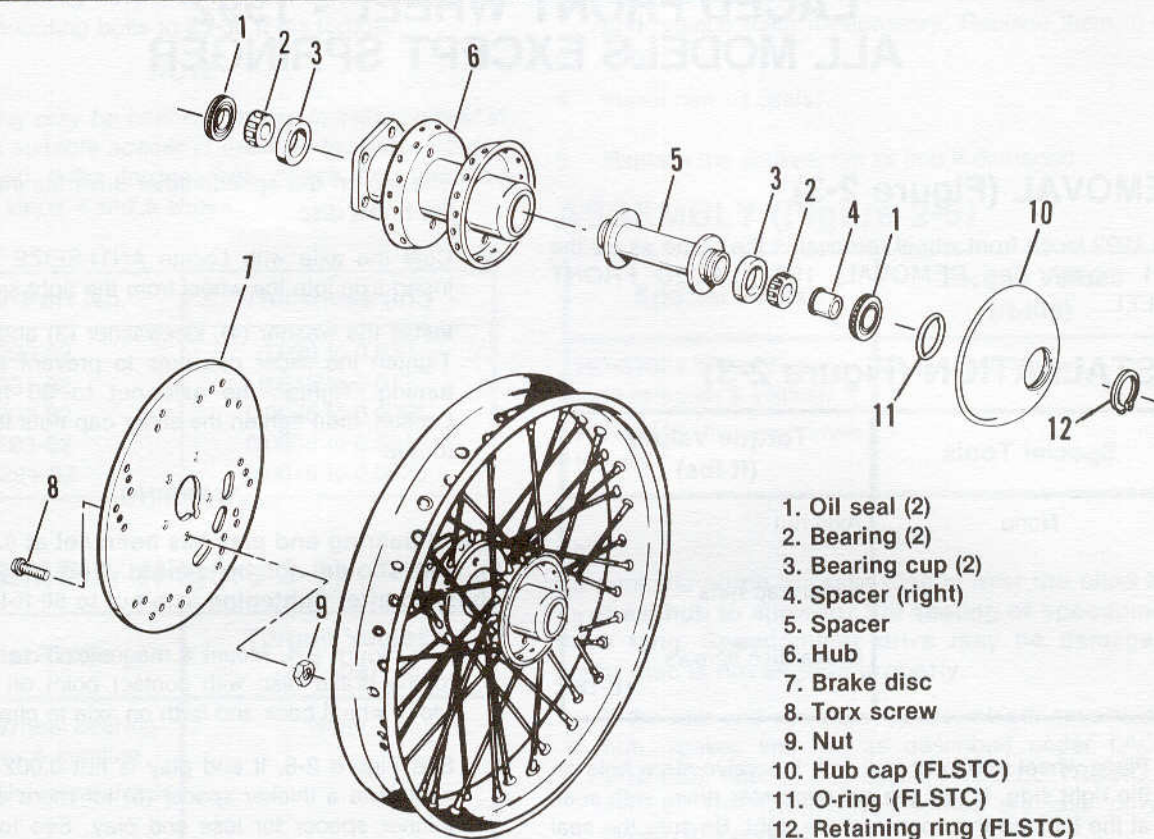

Figure 2-5. Laced Front Wheel
1. See Figure 2-5. Place wheel between fork legs with spacer (4) facing to the motorcycle right side.
See Figure 2-5. Check end play after tightening axle nut to 50 ft-lbs torque and slider cap nuts to 11 ft-lbs torque.
DISASSEMBLY (Figure 2-5)
See Figure 2-5. On the FLSTC, there is a snap ring (12) securing the hubcap (10) to the wheel hub. Remove the snap ring, hubcap and and O-ring (11) before disassembling wheel.
2. Pull spacer (4) and seal (1) from the right end of the wheel hub. The right hand seal may pull free with the spacer because of the small shoulder on the spacer, at the inboard side of the seal.
3. Pull seal (1) out of the left side of the wheel hub.
4. Remove bearings (2) and spacer (5).
5. If it is necessary to remove the bearing cups (3) use HD-33071 WHEEL BEARING RACE REMOVER & INSTALLER and UNIVERSAL DRIVER HANDLE Part No. HD-33416.
6. Remove screws (8) using a special socket wrench adaptor Torx T-40 or equivalent.
7. If it is necessary to remove the hub (6) from the wheel, unscrew all the spoke nipples and remove the rim and spokes from the hub.
ASSEMBLY (Figure 2-5)
See Figure 2-5. On FLSTC, install the O-ring (11). Slide the hubcap (10) into wheel hub and secure with snap ring (12).
See Figure 2-5. On the FLSTC, there is a snap ring (12) securing the hubcap (10) to the wheel. Remove the snap ring, hubcap and O-ring (11) before disassembling wheel.
1. Remove the spacer (1), oil seals (2), bearings (3), spacer washer (4), variable spacer(s) (5), and spacer sleeve (6).
2. If it is necessary to remove the bearing races (7), use WHEEL BEARING RACE REMOVER & INSTALLER, Part No. HD-33071 and UNIVERSAL DRIVER HANDLE, Part No. HD-33416.
3. Remove the screws (8) and locknuts (9) securing the brake disc. Mark the wheel and disc so they will be assembled in their original positions.